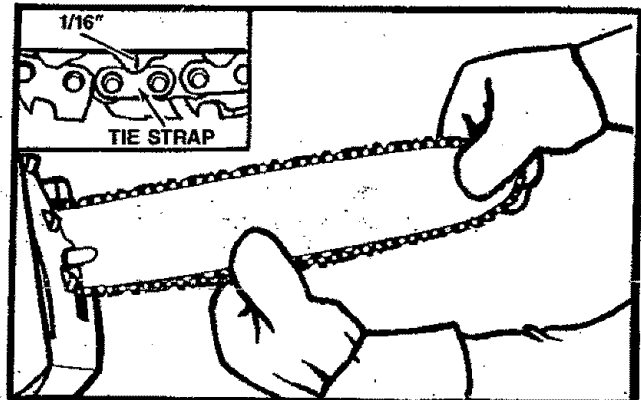

Figure 14
2. With your gloved hand, "snap" the chain several times by pulling down and letting go of the chain. Figure 14. This action removes some of the stiffness in the chain.
3. Turn the Adjusting Screw clockwise → until the chain tie-straps sag 1/16" below the bar rails. Figure 14 (inset).